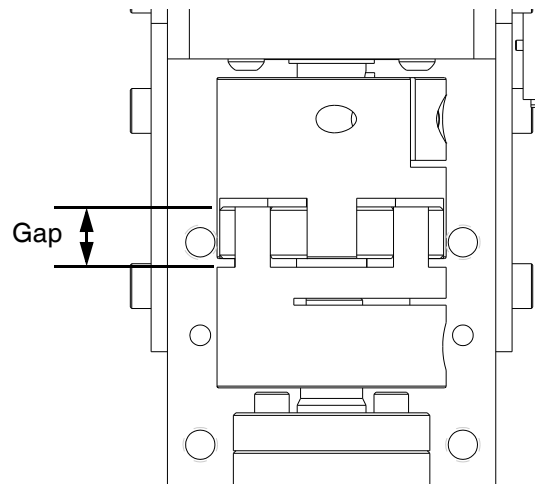

FIG. 21
5. Separate coupling until proper gap is created. FIG. 21. See the following table.